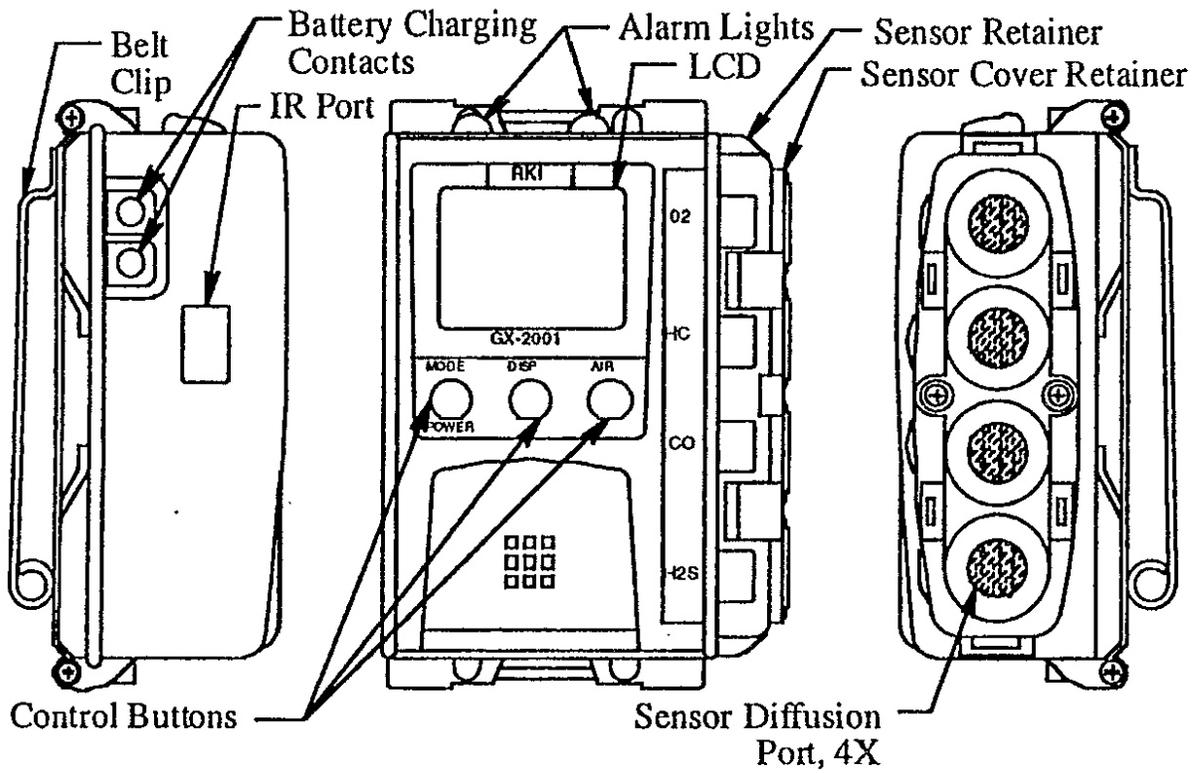

Figure 1: Components of the Model GX-2001
- 5.1.1. In a fresh air environment turn on the monitor by pressing and holding the MODE/POWER button, fig. 1, for one second.